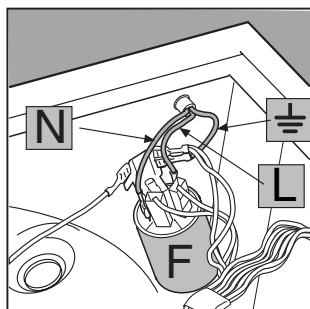

Fig. 2
3. Disconnect the wires from the radio interference suppressor **F** [fig. 2] noting as to their position (**Blue=N** wire; **Brown=L** wire) leaving the earth wire until last \perp .